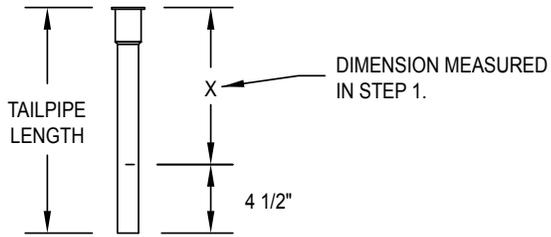

Figure 4.1
- 4.1) Cut the tailpipe to the dimension determined in Figure 4.1.